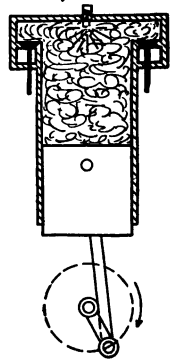

FIG. 5.
**Ignition, Fig. 5.** This third stroke is the power stroke and is variously known as the ignition, combustion, expansion, or explosion stroke. During this stroke both valves are closed.